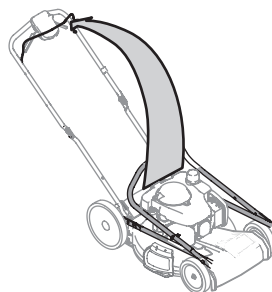

Figure 7
- While stabilizing mower so it doesn't move, gently lift and pivot the upper handle into the operating position (Figure 7). Make certain the lower handle is seated securely into the handle brackets. Do not crimp blade or drive control cables while lifting the handle up.